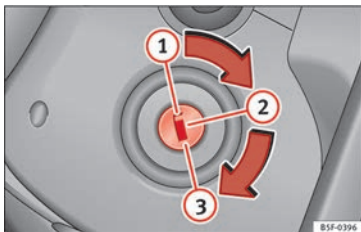

Fig. 163 Ignition key positions.
- » **Fig. 163.**
- Remove the key from the ignition in position  » **Fig. 163** » .